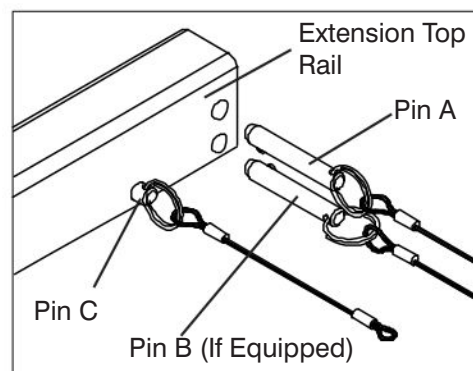

Figure 3-12b. Extension Top Rail Pins
8. Remove left and right side pins A and B (if equipped). (Refer to Figure 3-12b):